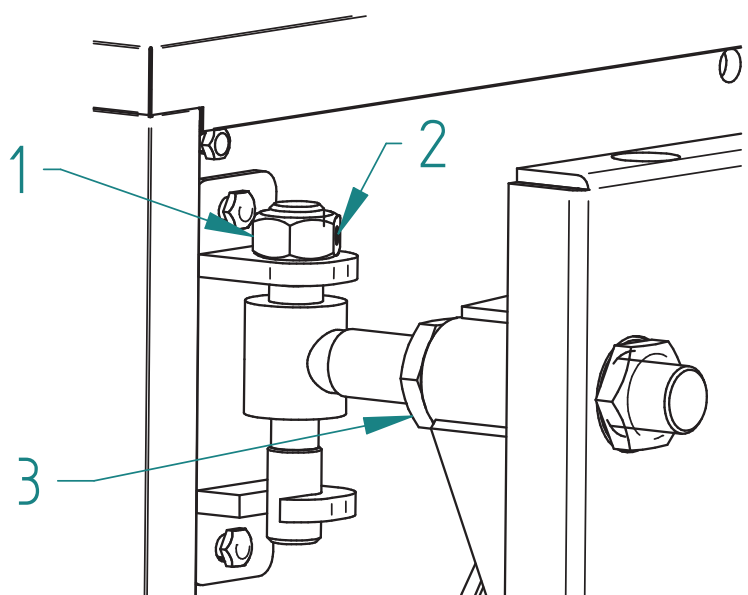

Fig. 10
- Door height adjustment is done with the nut (pos. 1); after adjusting, tighten the grub screws (pos. 2 - Fig. 10).
- Lengthwise adjustment is done with the screw pos. 3 - Fig. 10.